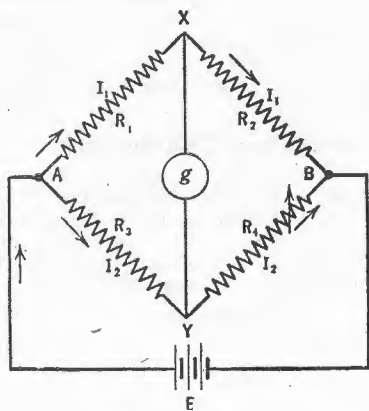

Fig. 7.
A fundamental circuit diagram of a Wheatstone Bridge intended for resistance measurement is shown in Fig. 7. As will be seen the arrangement consists of a source of E.M.F. (E), an indicating instrument (G) and a network of resistors (R1, R2, R3, R4). The arrangement of these resistors is in series-parallel, R1 and R2 being in series and shunted by R3 and R4; the entire arrangement being shunted across the source of E.M.F. The indicating instrument is connected between the junction of R1, R2 (X) and the junction of R3, R4 (Y). This instrument is usually of the centre-zero type so that the needle is free to travel in either direction.